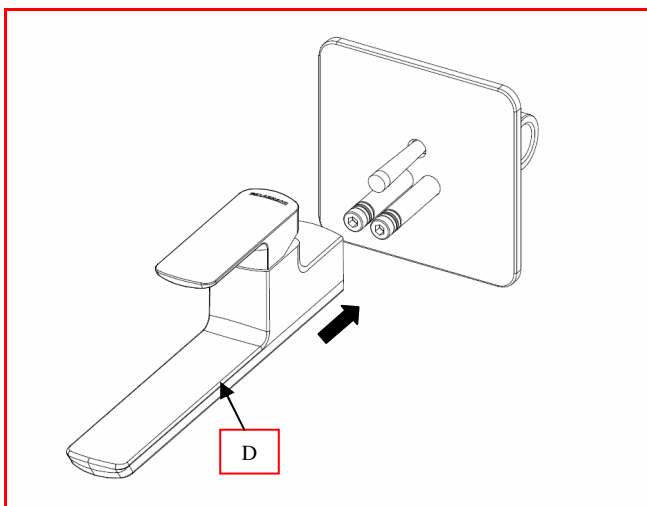
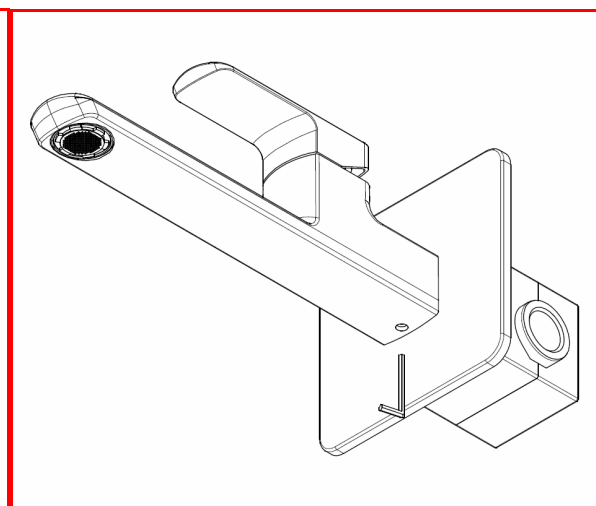

FIGURA 3 - MONTAGGIO GRUPPO RUBINETTO
FIGURA 4 - FISSAGGIO GRUPPO RUBINETTO.
- 3 - INSERIRE LA BOCCA (D) (FIGURA 3) SULLE CANNETTE (C) FINO AD APPOGGIARLA CONTRO LA PIASTRA. A QUEL PUNTO TIRARE IL GRANO DI FISSAGGIO (GIÀ INSERITO NEL CORPO) CON LA BRUGOLA APPOSITA CH=2.5 INSERENDOLA NEL FORO INDICATO IN FIGURA 4 E BLOCCANDO IL TUTTO;